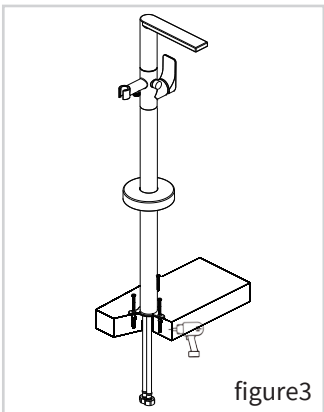

figure3
4. Locate the assembly on the desired location with the flexible hoses through the prepared hole and then slide the flange down to the base and secure the standpipe.(figure3)
- NOTE: If mounting into wooden floor, secure the standpipe using screws only (wall plugs are not needed). If mounting into solid floor, mark the position of holes first and then secure the standpipe using wall plugs and screws. Where required ensure correct plugs for your floor type are used. (figure3)